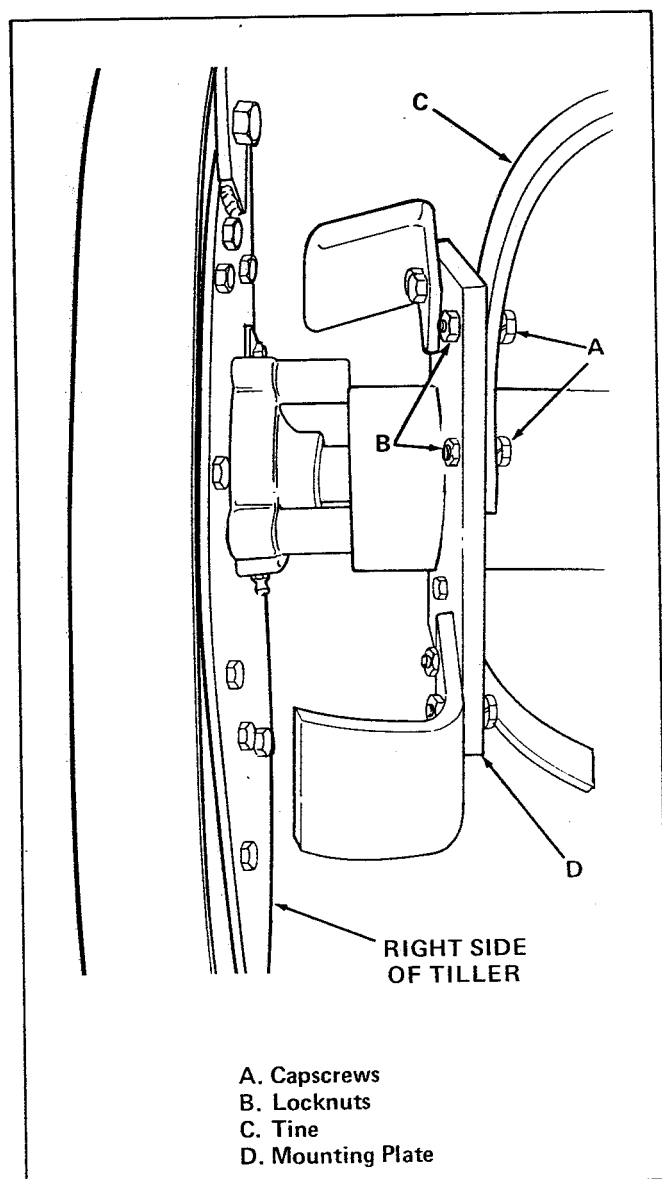

Figure 13. Tine Replacement
1. Remove two capscrews (item A, figure 13) and locknuts (item B).